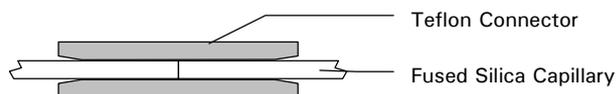

FIGURE 2-7 Low Pressure Connection using a Teflon Sleeve
- d) Connect the other capillary end (FIGURE 2-7). The connection can withstand pressures up to 10 bar (150 psi).